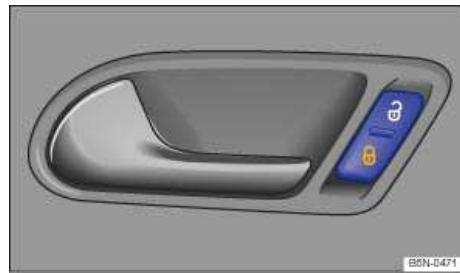

Fig. 28 On all 4 doors: Power locking button.
The vehicle will lock automatically when it reaches a speed of about 10 mph (15 km/h). When the vehicle is locked, the indicator light  lights up in the power locking button ⇒ fig. 28.
All doors automatically unlock when you switch off the ignition and open a door from inside the vehicle. On vehicles with automatic transmission, the doors will also unlock when the selector lever is in Park (**P**) or the ignition is switched off. Auto unlock works only if the vehicle has been automatically locked with the Auto lock feature. The indicator light  goes out in the power locking button when the doors unlock ⇒ fig. 28.
Press button ⇒ fig. 28:
- The yellow indicator light in the power locking button lights up ⇒ **fig. 28** to indicate that all doors and the rear hatch are locked.